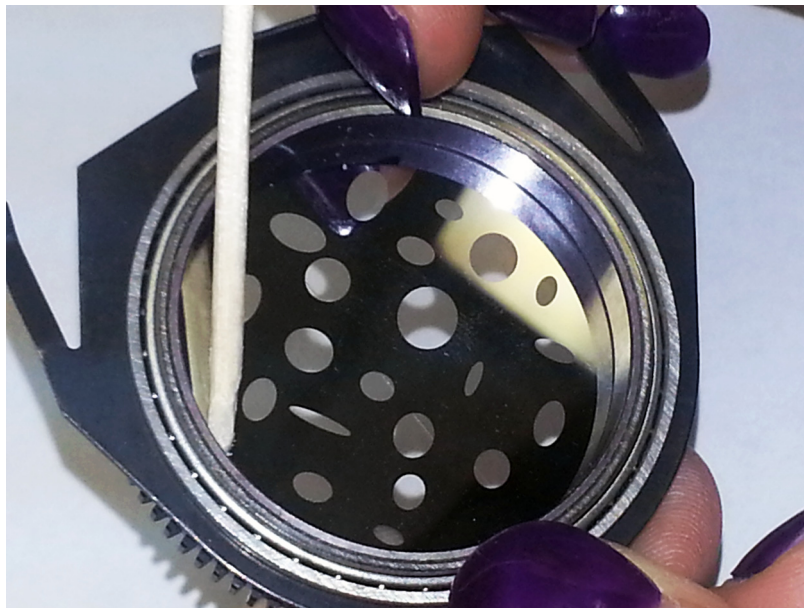

Figure 5: Removing Excess Glue
- Step 6. Allow RTV to dry at least four (4) hours.
Step 7. Using wooden end of a Q-Tip, remove excess glue from glass as shown in **Figure 5**.